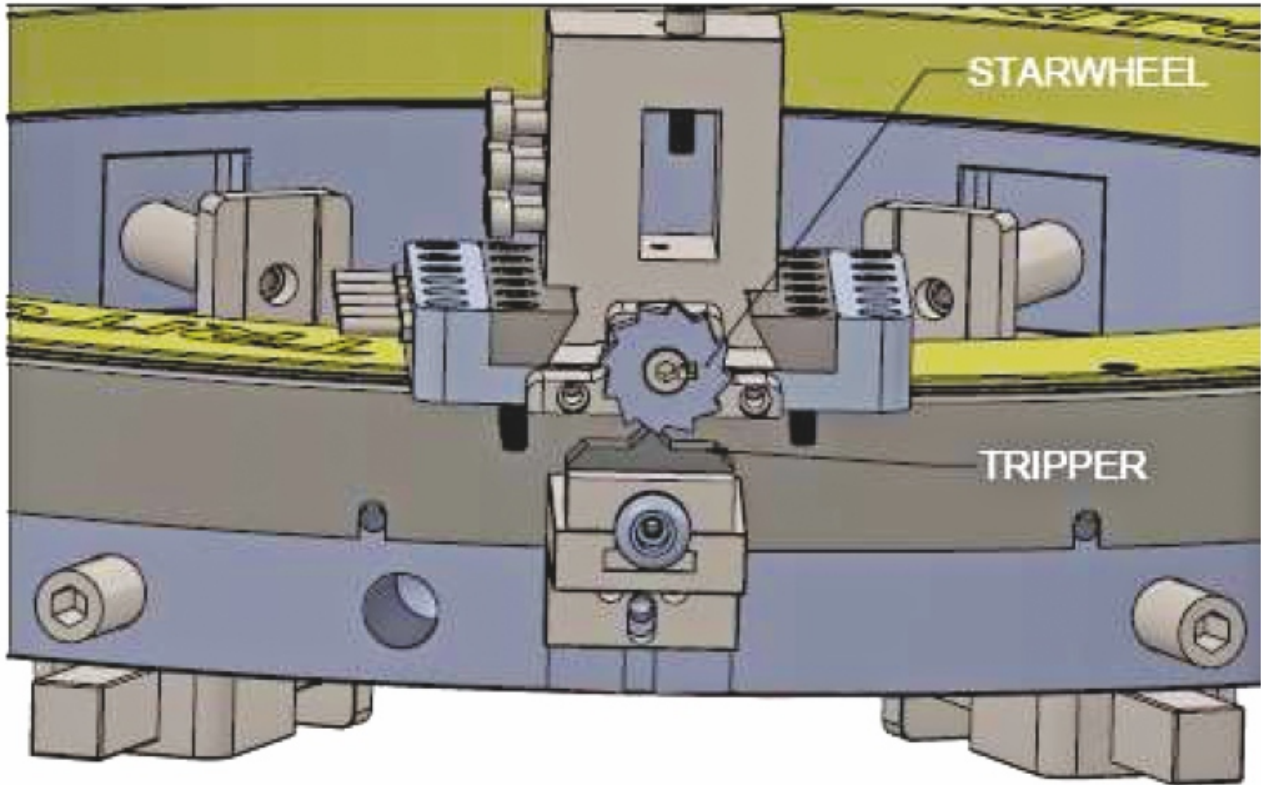

Fig 7. Tripper Setup
6. Remove the lock pins. Push the handle of the tripper pin assembly in so the tripper pin is in the “engaged” position. If the tripper pin does not line up with the star wheel, reposition it. After the tripper pin height is set, check the tripper pin length (see Figure 7 below). The end of the tripper pin should be spaced .030” away from the cavity between 2 of the points of the starwheel. Pull the handle to disengage the tripper pin and reinsert the lock pin.